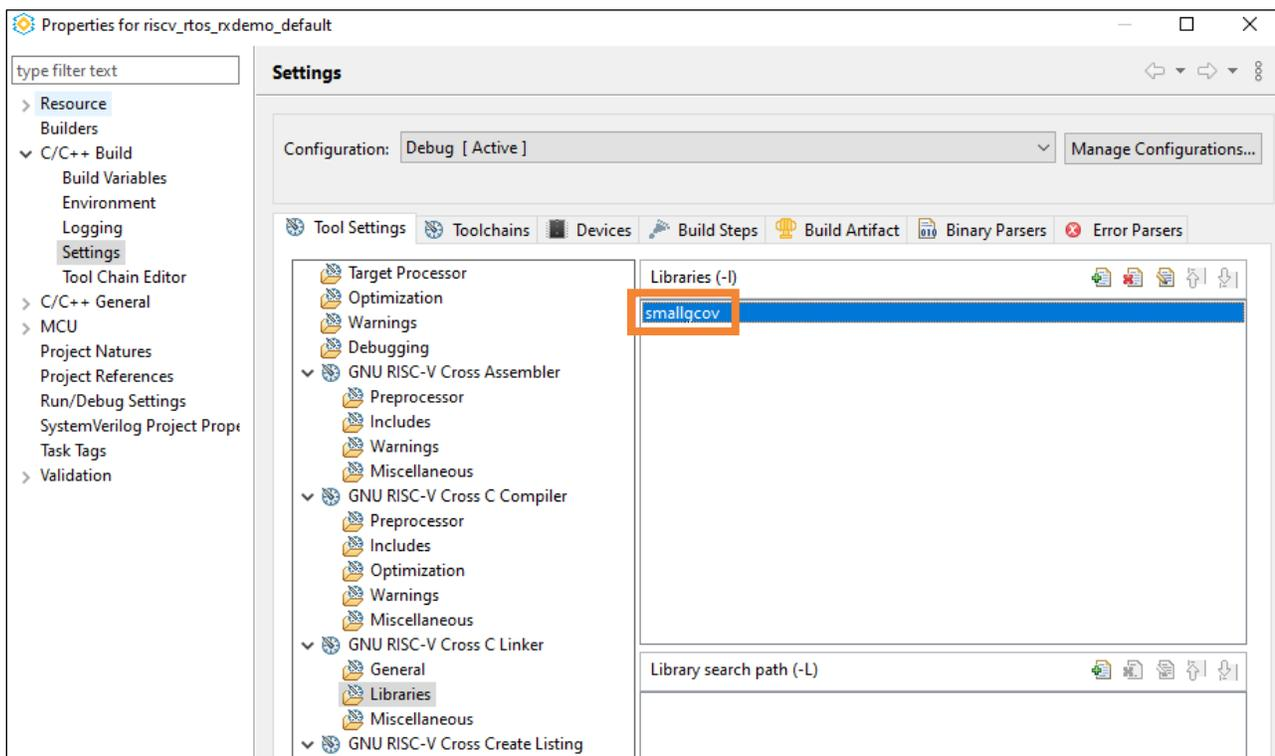

Figure 5.10. Libraries
5. Select **GNU RISC-V Cross C Linker > Libraries**. Add the library, `smallgcov` (Figure 5.10).